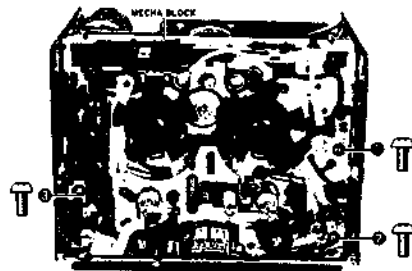

Fig. 3-7
- 3) Remove motor block securing screws (C), (D) and (E) from the mechanism block's front side. Remove the motor block from the mechanism block (Refer to Fig. 3-7.)